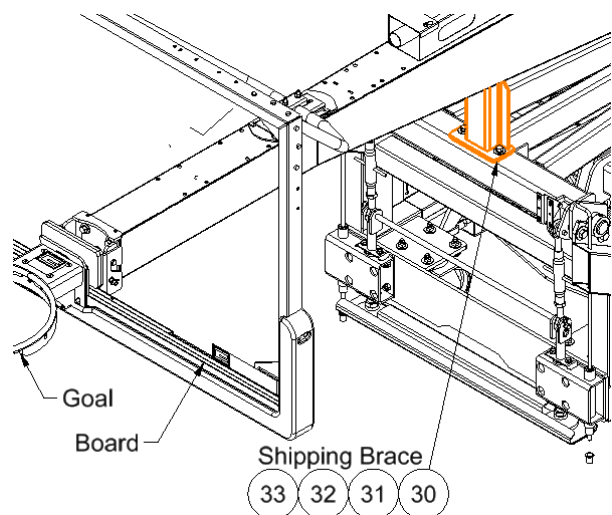

Figure 38
8. If the Board and Goal will be removed to transport, be sure to first install the Shipping Brace, item 30, using 1/2" hardware, item 31, 32, and 33 as shown in figure 38.